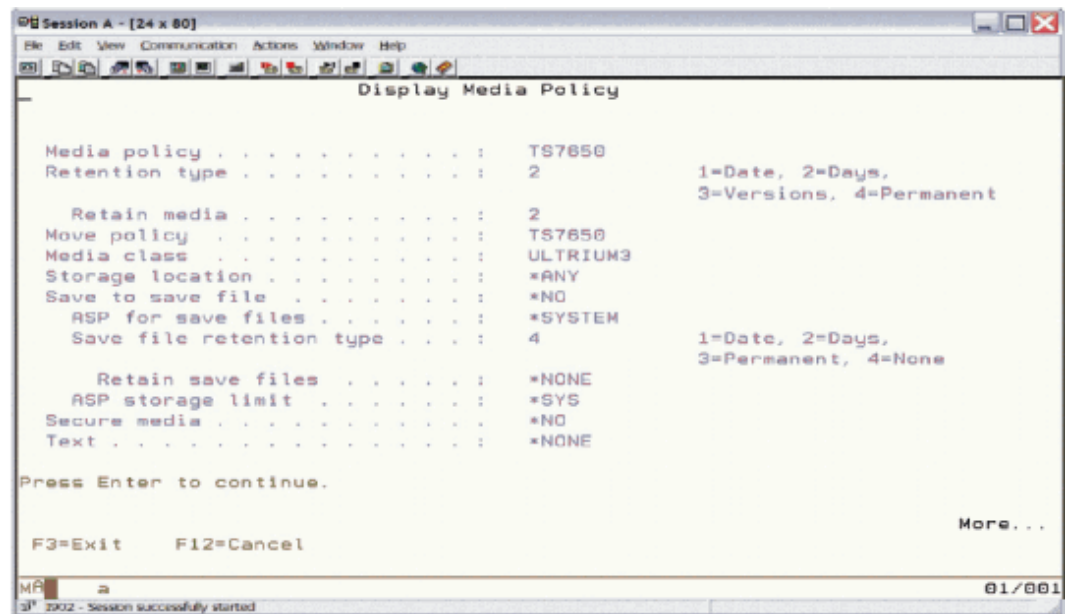

Figure 18-5 Example of change control group attributes
2. Create a BRMS media policy to use this move policy (Figure 18-5).